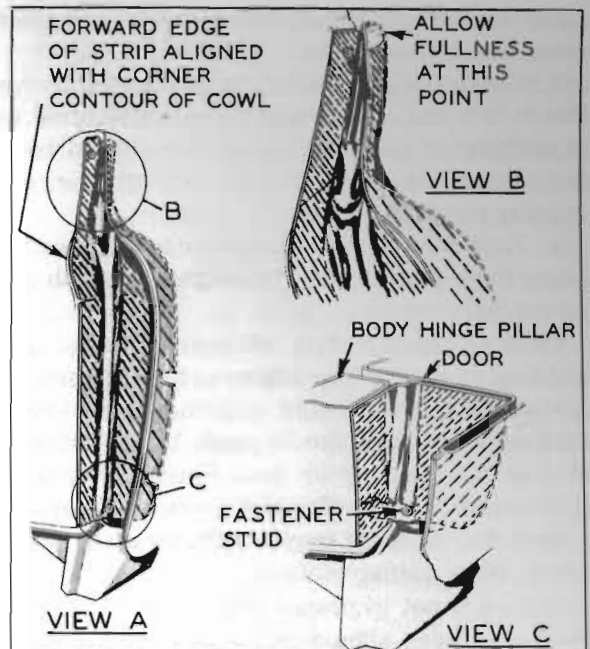

Figure 13-9—Hinge Pillar Sealing Strip Installation
4. Use 3-M Weatherstrip Adhesive to cement the new sealing strip to the front face of door hinge pillar. In this operation insert the fastener stud on lower end of hinge pillar through the hole in the sealing strip to insure proper vertical position of strip. See figure 13-9, view C.
5. Use 3-M Weatherstrip Adhesive to cement the sealing strip to the body hinge pillars aligning the edge of sealing strip with corner contour of cowl panel. See figure 13-9, view A. In this operation it is very important to allow just enough fullness at upper end of sealing strip to prevent any strain on it when the door is fully opened. See figure 13-9, view B.